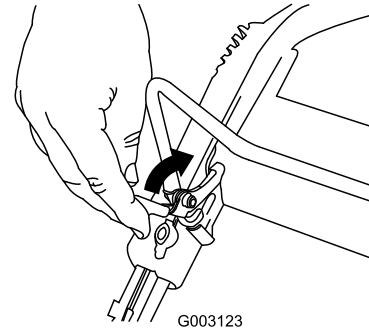

Figure 17
1. Pull the control-bar lock back (Figure 17).